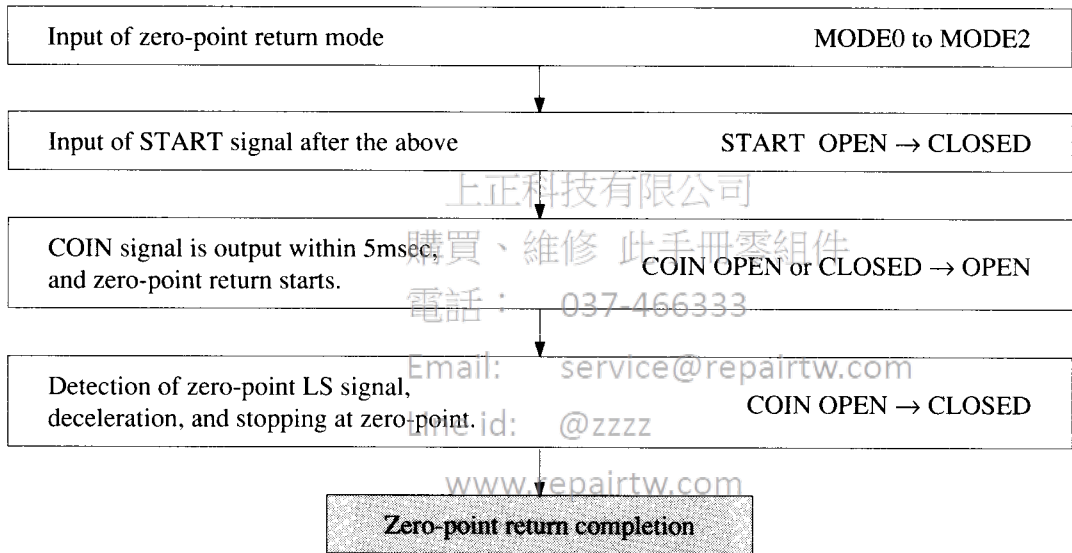

Fig. 4.4 Sequence of Zero-point Return Operation
- **Sequence** Fig. 4.4 shows the sequence of zero-point return operation.